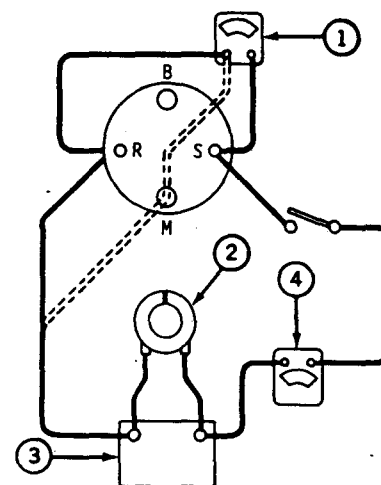

Fig. 2-Solenoid Pull-In Test
Disconnect field connector from solenoid motor terminal. Connect ammeter in series with a carbon pile resistor to terminal "S" and to battery. Connect voltmeter (1) to terminal "S" and to solenoid motor terminal (Fig. 2). With carbon pile (2) in the off position, connect other battery post (3) to solenoid motor terminal. Quickly adjust the carbon pile (2) to obtain 5 volts. The ammeter (4) reading should be 13 to 15.5 amps.